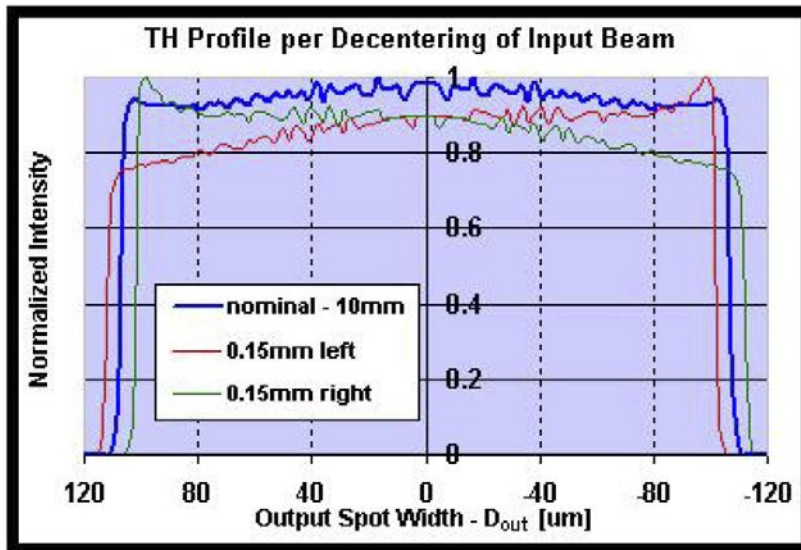

Fig. 4: Effect of x-axis or y-axis decentering of input beam on Top-Hat Profile
**Noteworthy in figure 4 above is the „tilted“ Top-Hat profile due to de-centering; i.e. a slope in the intensity going from one side of spot to the other.